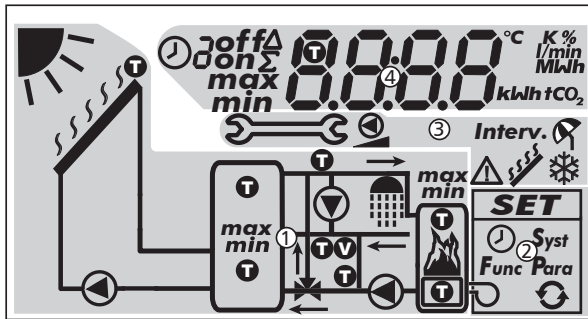

Fig. 8: Overview of the display areas (all elements visible)
The following table describes the symbols used in the system graphics (① in Fig. 8).
The settings menu (② in Fig. 8) contains the following entries:
The following table describes the pictograms used for functions (③ in Fig. 8).
The display of the operational and setting values (④ in Fig. 8) consists of the following elements:
①	<p>Symbol for time control of functions. This symbol is displayed when</p> <ul style="list-style-type: none"> • a time restriction/control has been set, • the status of time restriction/control is displayed, • the time restriction blocks a temperature control (symbol flashes).
②	<p>Number of the time window that is currently being set/displayed or within which the current time lies.</p> <p>The time control of a function consists of 1 to 3 configurable time windows.</p> <p>Example:</p> <p>Time window 1 06:00 – 08:00 Time window 2 11:00 – 12:30 Time window 3 17:00 – 19:00</p>
③	<p>Additional information:</p> <p>on, off: Switching state/condition on, off max, min: Maximum value, minimum value Σ: Summed operational value since first commissioning, cannot be reset Δ: Summed operational value since last reset to 0</p>
④	<p>Symbol is displayed when a temperature sensor is selected when setting a function.</p>
⑤	<p>Display of:</p> <ul style="list-style-type: none"> • Measurements • Settings • Error codes • Additional information, e.g. software version
⑥	<p>Physical unit of the value displayed in ⑤</p>